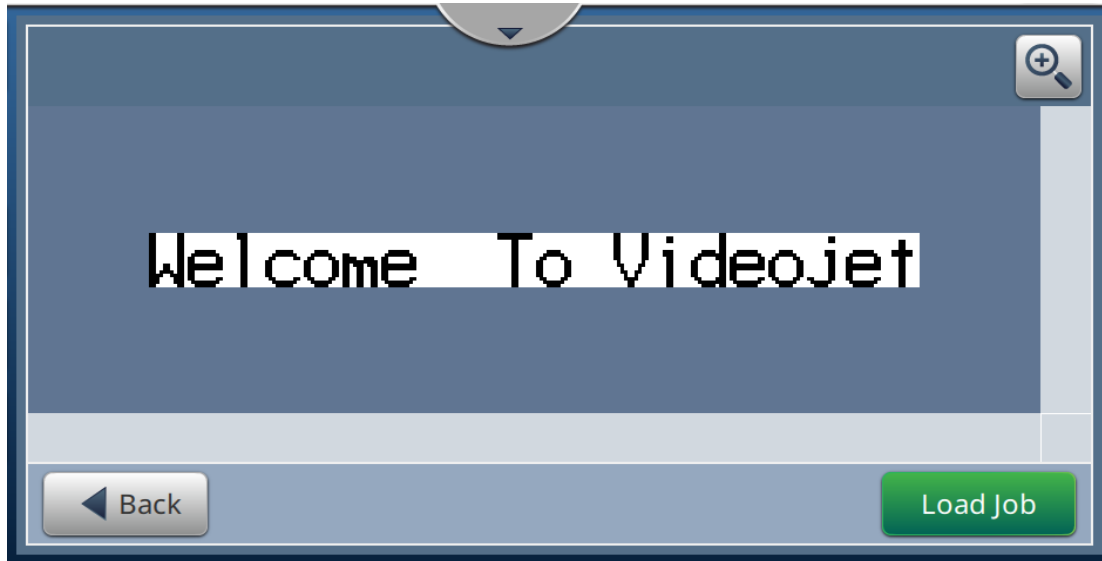

Figure 4-4: Job Selection and Loading
3. Touch the  button to load the job for print as shown in Figure 4-4.